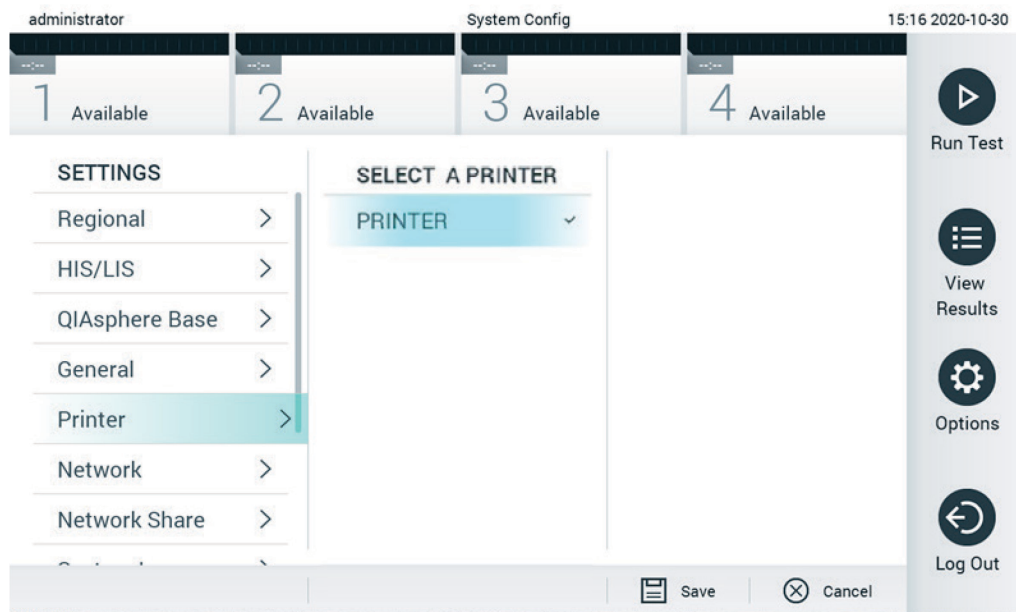

Figure 67. Selecting a system printer.
3. Select a printer from the list of available printers (Figure 67).